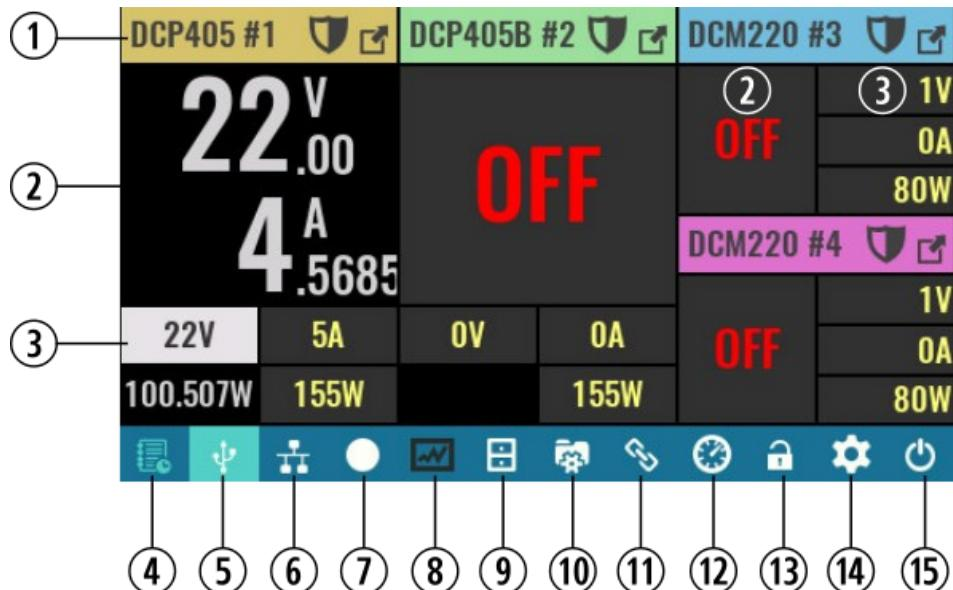

Fig. 8: Home page overview
Fig. 8 shows home page of the EEZ BB3 loaded with three different power module (see Fig. 6) using the default view (*numeric*) for presenting output states, and measured and set values. This module configuration (i.e. DCP405, DCP405B and DCM220) will be used as an example throughout this manual.
- ③ **Channel supplemental display section** is used for set output voltage, current and power. Additionally is used for displaying measured output power together with related units of measurement (mW or W).
- ④ **Event view:** View the event log. The icon color will change color if unread warning or error messages have been added to the log.
- ⑤ **USB activity** indicator and shortcut to serial communication settings. The icon is not visible if USB/serial communication is disabled and its background becomes highlighted if USB/serial communication is established.
- ⑥ **LAN activity** indicator and shortcut to the Ethernet communication settings. The icon is not visible if Ethernet communication is disabled and its background becomes highlighted if LAN communication is established.
- ⑦ **Recording / Stop:** Data logger control. Use to start data logging or to stop logging before a defined end.
- ⑧ **Data log view:** if logging is in progress it displays real time data. When logging is completed or stopped, it will display data from the last log.
- ⑨ **File manager:** Allows access to data on a SD card such as user profiles, program lists, logged data or screenshots. Logged data and screenshots can be uploaded to EEZ Studio with one click.
- ⑩ **User profiles:** 10 different profiles (with auto-recall function) are available for saving and recalling module parameters.
- ⑪ **Tracking and coupling settings:** tracking allows simultaneous programming of two or more module's output channels. Coupling can be used to safely connect (under firmware control) two or more module's outputs in series, parallel, as “split rail” (i.e. series with common output) or with Vout- tied together. No additional external connection wiring is required, and in case of coupling in series the output voltage range is doubled (e.g. to 80 V). Similarly, when parallel coupling is performed the output current range is doubled (e.g. to 10 A).
- ⑫ **Display view selection:** toggle between five different presentations of output module parameters (default is numeric view – as shown on Fig. 8).
- ⑬ **Display lock/unlock:** when locked all local user interaction via touch-screen display will be disabled until the same option is selected again. Unlocking is not possible without entering valid system password (the system password is *not* defined by default).
- ⑭ **System settings:** use it to access system-wide protection settings, display, sound, trigger, digital I/O, date & time, Encoder and user switch, AUX temperature & fan control, Ethernet, Serial/USB and channels calibration
- ⑮ **Power / Reset control:** allows access to standby, “soft” reset (see also \\*RST), “hard” reset (equivalent to power up reset) and option to turn off display